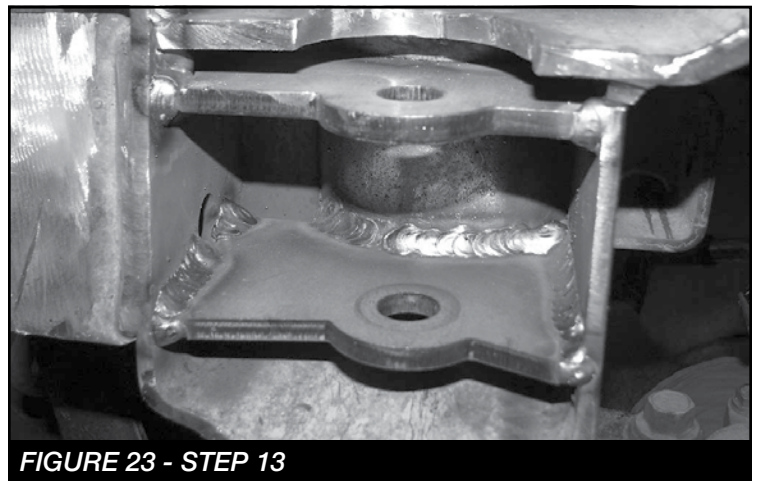

FIGURE 23 - STEP 13
**13. NOTE: THIS STEP IS TO BE PERFORMED BY A CERTIFIED WELDING TECHNICIAN ONLY!!!** Weld the gussets into the spring perch support and to the axle tube. **SEE FIGURE 23**